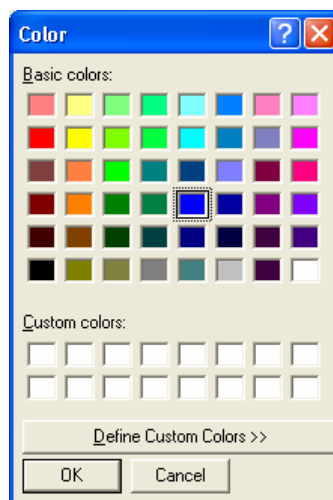

Figure 36 - Standard Colour Dialog
In each case, the standard colour dialog (Figure 36) is used to set the new colour. Forty-eight standard colours are available as well as an almost infinite number of user-defined custom colours.
1. Choose **Setup** ➔ **Graph Colours** ➔ **Current Lap** from the main menu. The Standard Colour Dialog (Figure 36) appears.
1. Choose **Setup** ➔ **Graph Colours** ➔ **Reference Lap** from the main menu. The Standard Colour Dialog (Figure 36) appears.
1. Choose **Setup** ➔ **Map Colours** ➔ **Track** from the main menu. The Standard Colour Dialog (Figure 36) appears.
1. Choose **Setup** ➔ **Map Colours** ➔ **Segments** from the main menu. The Standard Colour Dialog (Figure 36) appears.